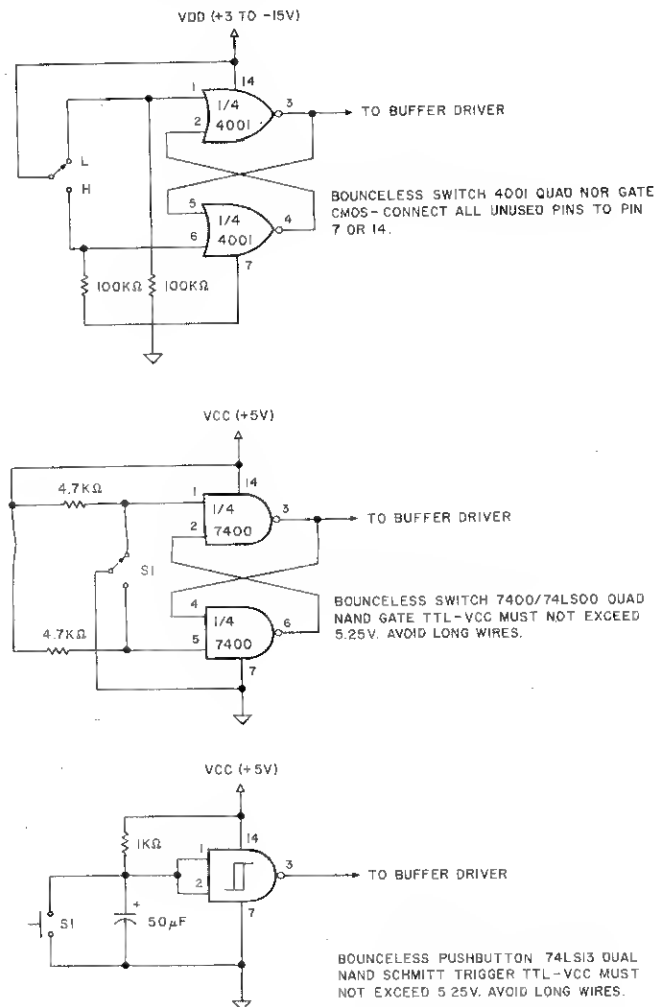

Fig. 1. Examples of Bounceless switches for use as input sensors
- The second problem is switch bounce. The double characters that plagued early machines were a direct result of one complication—the rate at which the computer scanned the keyboard was too fast, often resulting in a key being read twice. There are two solutions for this. One is a bounceless switch (Fig. 1). The other, a software fix, slows the rate of scan